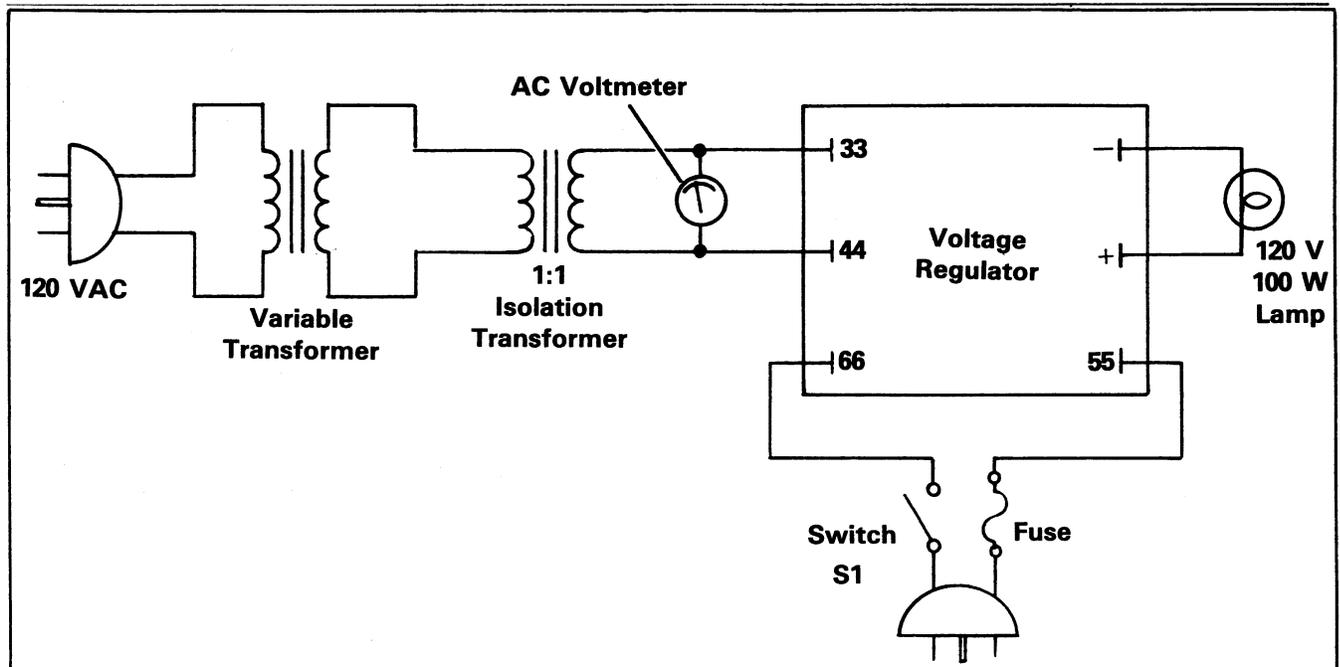

Figure 2-7. Voltage Regulator Test
1. Connect components as shown in Figure 2-7.